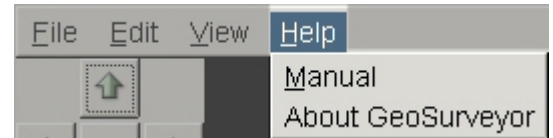

Figure 3.7
**Help** – This menu (Figure 3.7) allows you to view the manual and to see the exact software release as stated in the “About GeoSurveyor” option.